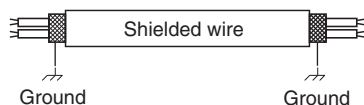

Fig. 4-4
- Use shielded wires for inter-unit control wiring (c) and ground the shield on both sides, otherwise misoperation from noise may occur. (Fig. 4-4)